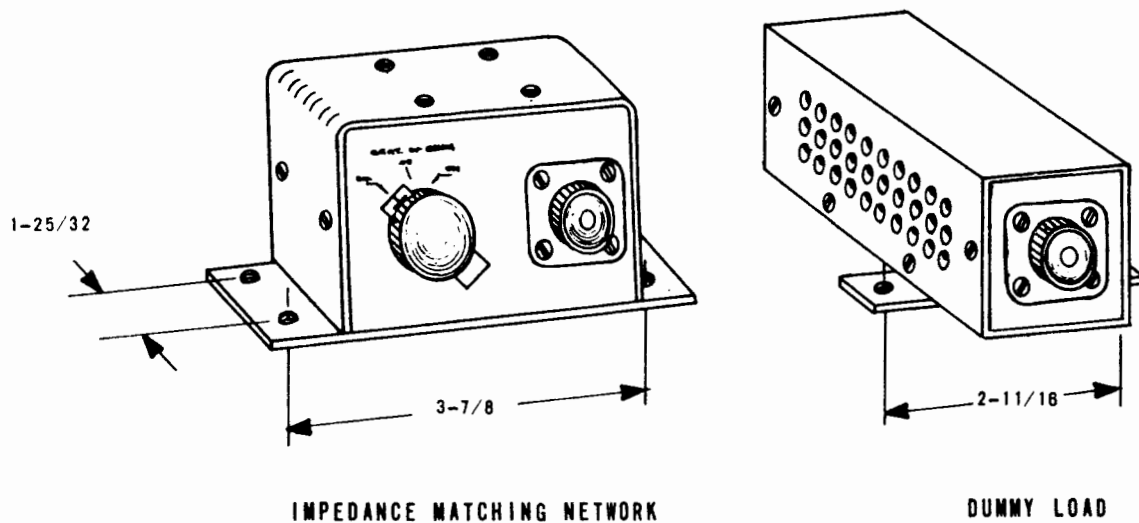

Figure 6-19 Coupler CU-837/URC Physical Configuration
b. PHYSICAL CONFIGURATION. - See Figure 6-19.